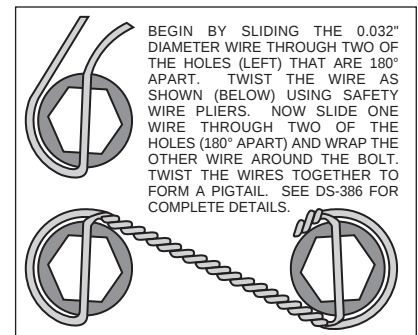
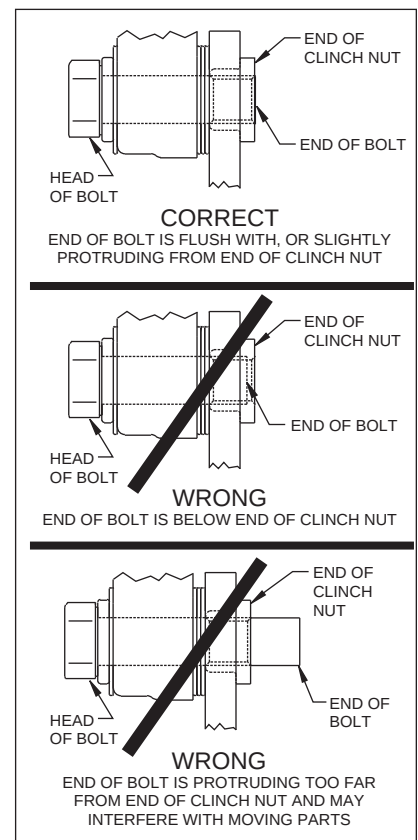

Figure 3. Safety Wire Diagram
Figure 4.
- The rotor (3) has two sides. A flat side and an inset side. Bolt hat (2) to flat side of rotor (3) using bolts (5). Using an alternating sequence, apply red *Loctite*® 271 to the threads and torque bolts to 25 ft-lb. For an added measure of security, the bolts may be safety wired using standard 0.032 inch diameter stainless steel safety wire as shown in Figure 3. Refer to Wilwood's data sheet DS-386 (available at www.wilwood.com/Pdf/DataSheets/ds386.pdf) for complete safety wire installation instructions.
- Align the correct hole pattern in the hat (2) with the stud pattern on the axle flange. **NOTE:** Some OEM and after market axles come with stud sizes larger than 0.50" diameter. Verify stud size and have a qualified machine shop drill the hats to the correct size. Slide the hat/rotor assembly (2 and 3) over the wheel studs and against the axle flange face.
- NOTE:** Please reference the caution statement at the beginning of the assembly instructions. Mount the caliper (6) over the rotor (3) and onto the caliper mounting bracket (1) using washers (7) and mounting bolts (8). View the rotor through the top opening of the caliper. The rotor should be aligned in the center of the caliper. If not, adjust the caliper by using 0.032 inch shims (9) by placing them between the caliper mounting bracket (1) and the caliper (6). Add as many shim washers (9) as necessary to achieve the correct alignment. **NOTE:** The end of the bolt must be flush with or slightly protruding from the head of the clinch nut. See Figure 4. Place spare shims (9) between washer and caliper mounting ear to achieve the proper mounting fastener configuration. Always use the same amount of shims on both the top and bottom caliper mounting bolts (8). Apply red *Loctite*® 271 to the mounting bolt threads (8), torque to 40 ft-lb. Caliper mount bolts may be safety wired for additional security.
- Position the Wilwood disc brake pads (10) into the caliper (6) and fasten with cotter pin (4). Steel backing plate side of brake pad should face the caliper pistons.